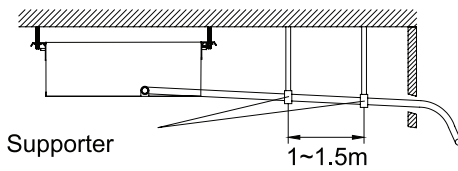

Fig.4.22
- (3). When the hose is long, pipe supporters.(Fig.4.22)